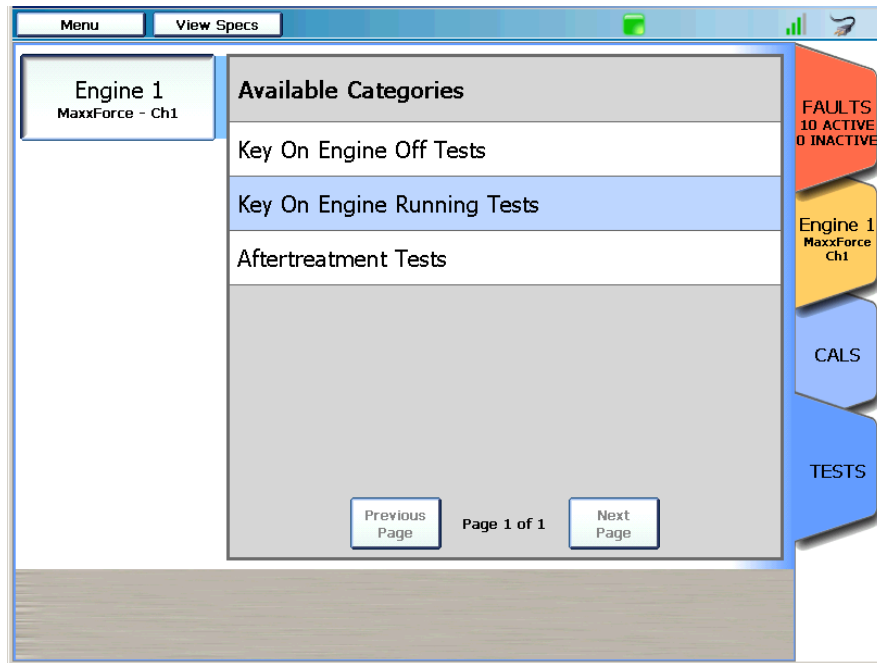

Figure 4.35 Available Categories Screen
- 10 Touch the **Categories** button at the bottom of the screen to display the list of Available Categories (Figure 4.35).
- 12 Touch the green **Back Arrow** to return to the Available Categories screen (Figure 4.35).